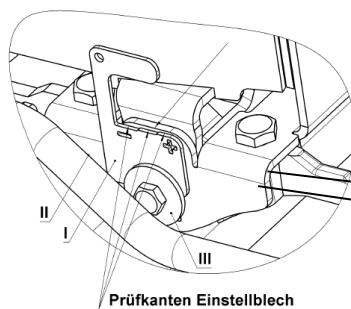
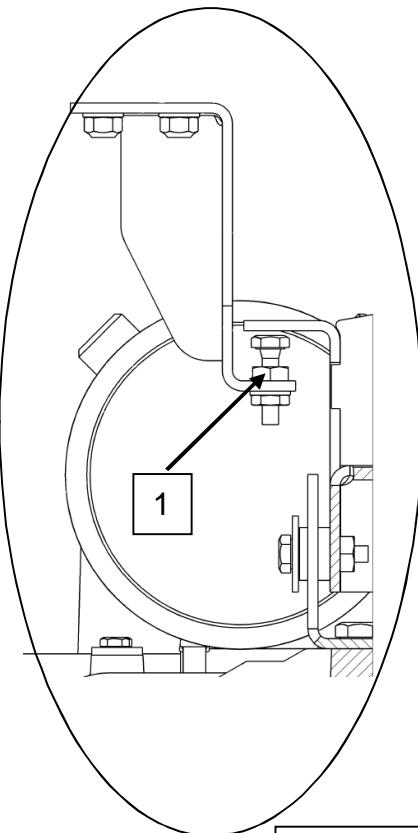

Fig. 7.7
Fig. 7.9
- Adjust the distance by turning the adjusting bolt (Fig. 7.9/1) and check guide II (Fig. 7.7) with adjusting plate I on both sides.